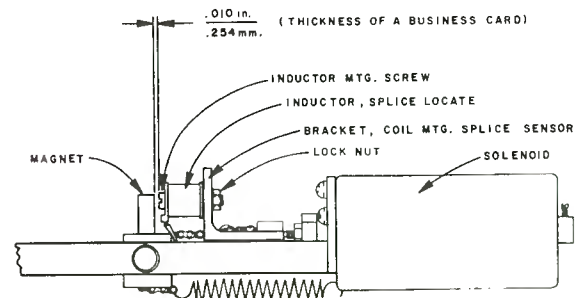

Figure 3-18
4. Slide the bracket forward placing a business card between the magnet and the head of the screw holding the coil. See Figure 3-18.